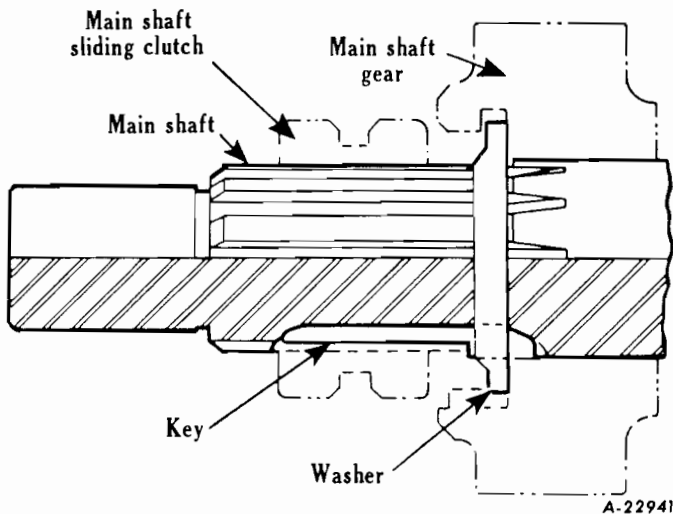

Fig. 4
- (a) Remove mainshaft rear bearing retainer (47) and countershaft rear bearing (38). Slide off speedometer drive gear (41) and remove key. After locking gears by engaging two speeds, the countershaft rear bearing lock nut (37) is removed from end of countershaft.
- (b) Drive mainshaft assembly toward rear of case sufficiently to expose rear bearing snap ring (40). Install suitable puller and remove bearing (46) from mainshaft (33). By tilting the mainshaft assembly, front end upward, the entire unit comes out easily leaving sliding gears (51, 54) inside case. After shaft assembly is removed, the sliding gears may then be lifted out of case.
- (c) To disassemble the mainshaft, remove the pilot bearing (16) and sliding clutch (18) using the latter part to free the bearing. After removing key (59) (Fig. 4) rotate gear retainer washer until its inside lugs line up with grooves in shaft and then remove.